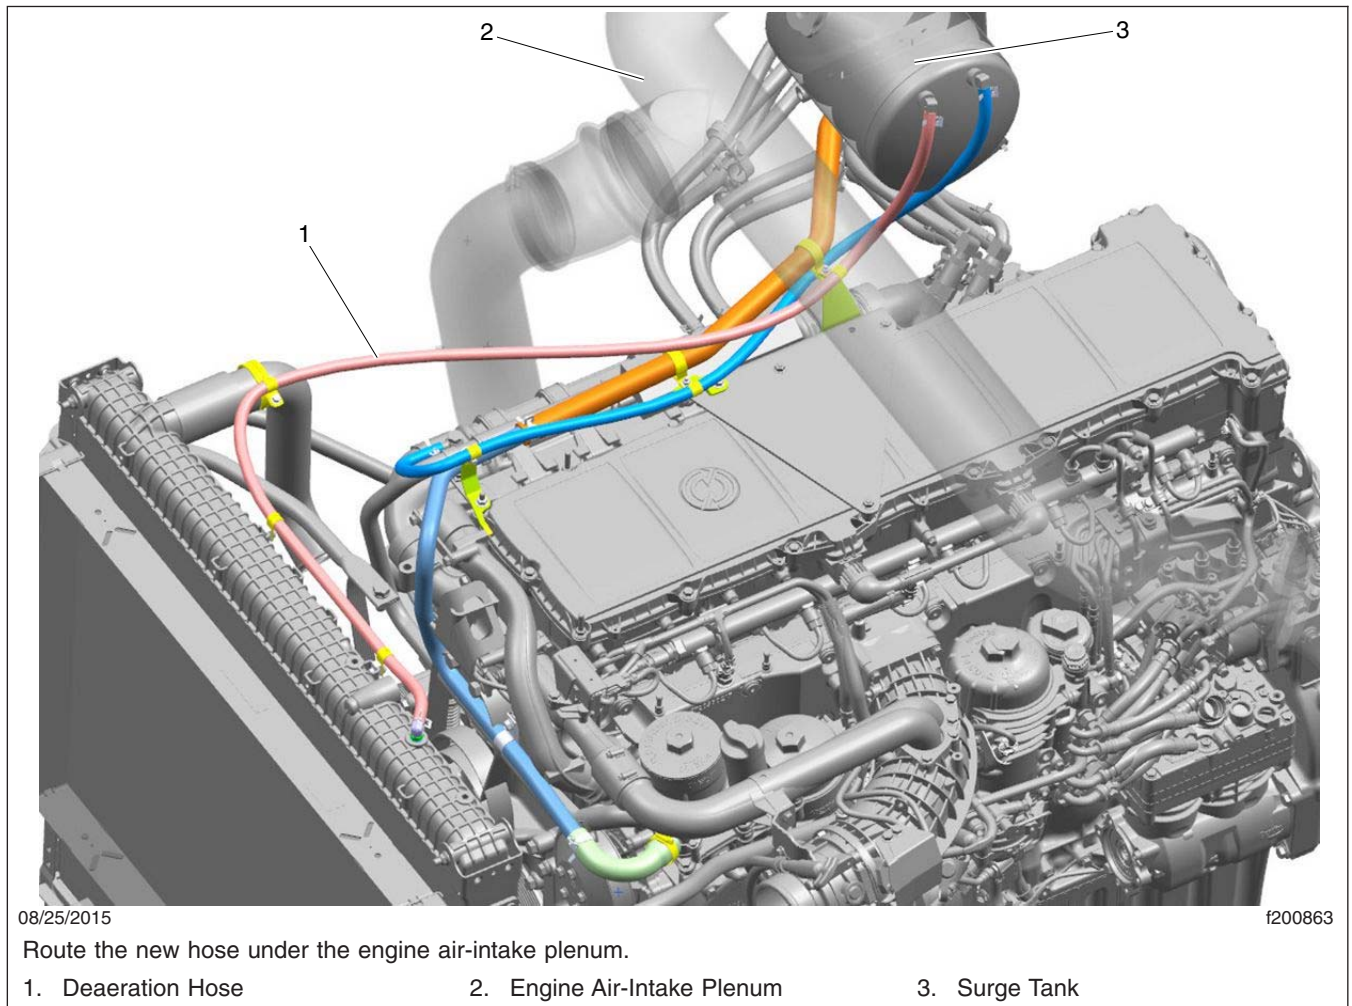

Fig. 2, New Deaeration Hose Routing (typical)
5. Install the new hose. Route the new hose under the engine air-intake plenum and to the surge tank. Use available clipping locations as needed. Refer to Fig. 2 for typical new hose routing.